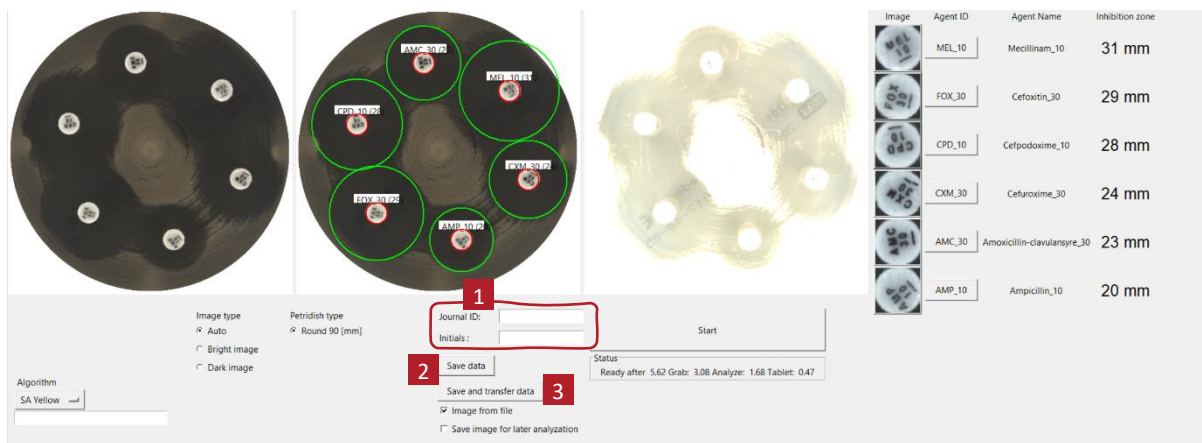

Figure 13 – Saving Data
15. If no scanner was used, then write the Journal ID, see **1** in Figure 13.
16. Write in the user Initials see **1** in Figure 13. This must only be done at the first measurement of the day.
17. When all Discs and Zones sizes are correct then click Save Data, see **2** in Figure 13 or press **CTRL S** (some PC's Shift+CTRL S). The results and photos will now be saved.
24. The results can be saved and at the same time transferred to your LIMS system if a connection has been created. Click the Save and Transfer Data, see **3** in Figure 13 or press **CTRL T** (some PC's Shift+CTRL T). During installation of PD-100 this setup will be specified.